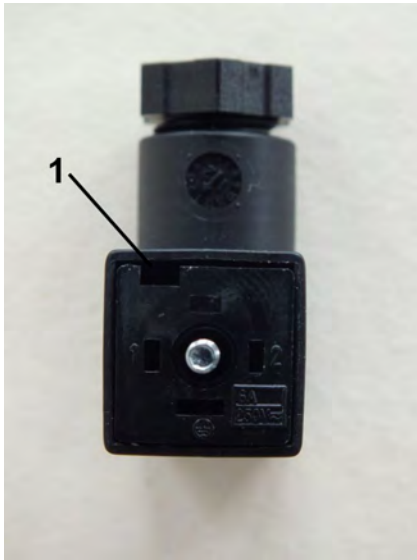

Fig. 24: Disconnect inner section
3. ➤ Remove the inner section from the socket by inserting a flat-bladed screwdriver into the slot (Fig. 24/1) and carefully pry out the inner section.
7. ➤ Place the inner section (Fig. 24) back into the socket and push until it locks on